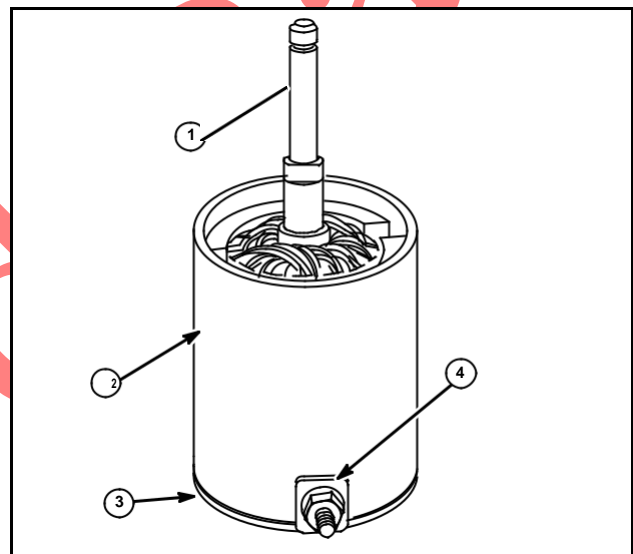

Fig. 72
4. Slide motor housing over armature with the notch toward brush holder, Fig. 72.